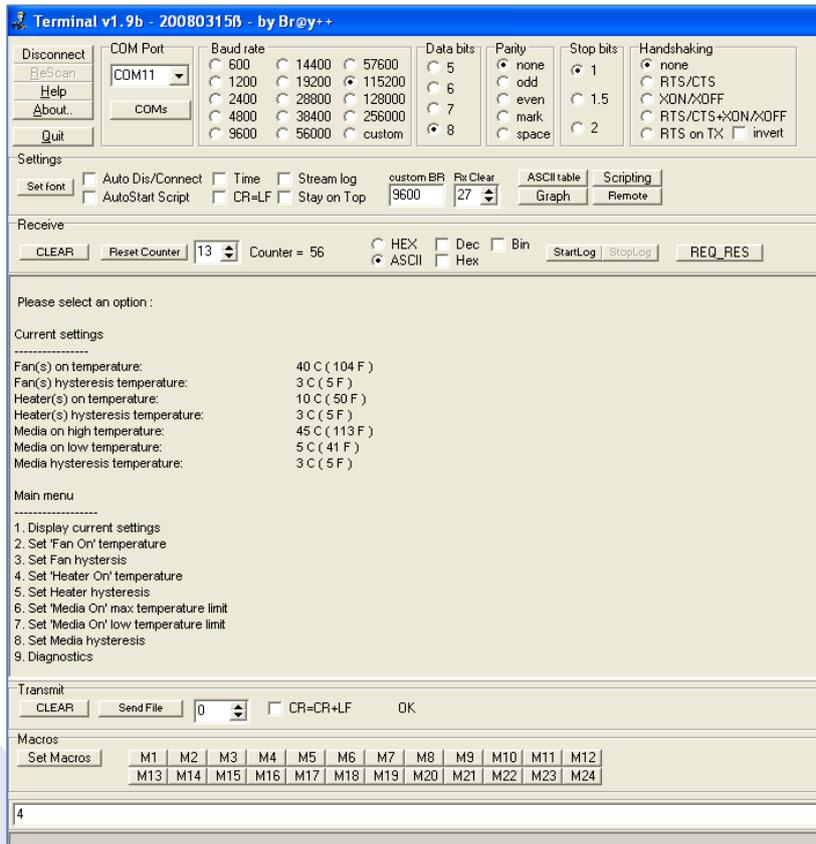

Figure 5
Step 11: On the setup menu, press Enter and the enclosures system will be switched off and the current settings will be displayed for all the components in the menu shown in figure 5 below.